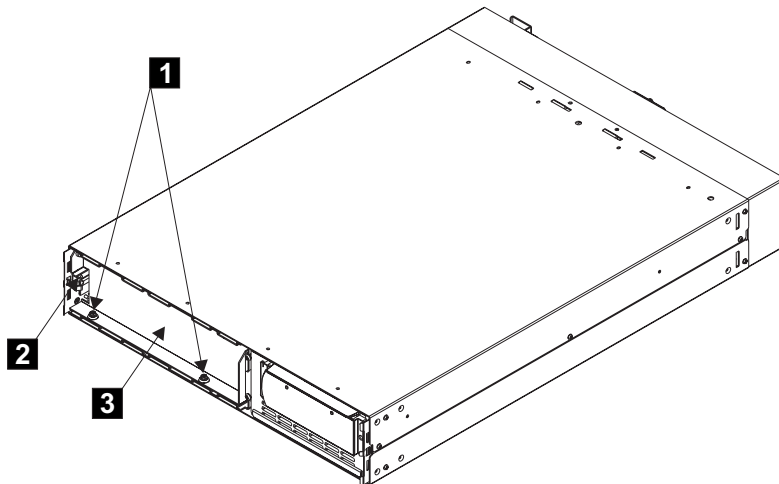

Figure 119. Remove the battery retaining bracket
- c. Remove the two bolts **1** and additional nut **2** on the left side of the bracket and remove the battery retaining bracket **3**. See Figure 119 on page 204.